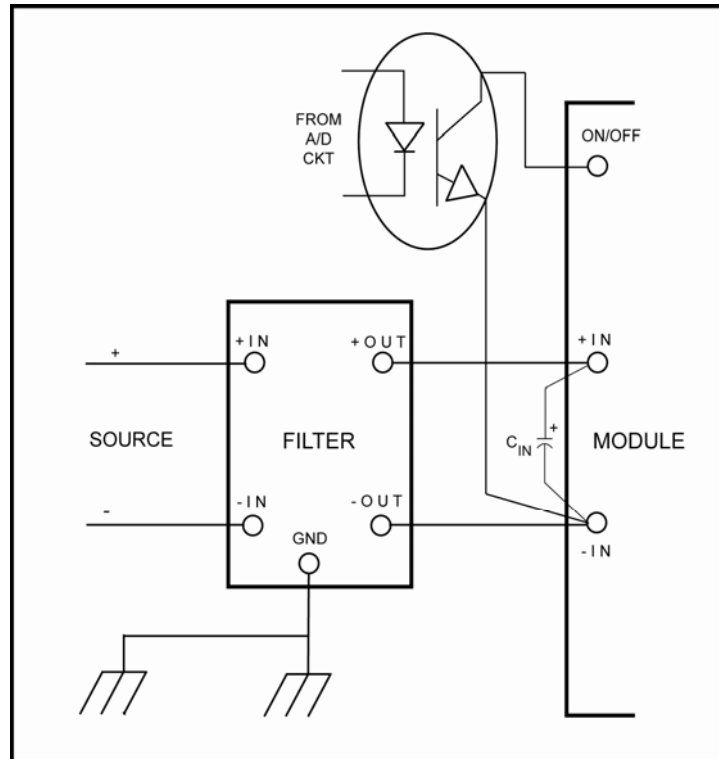

Figure 2. Use of the Shutdown Pin With Input Filters
**Fig. 2: F4810 - Differential mode attenuation, 0.2-100 MHz. Source and load resistances are 50 Ω. Vertical scale: 10 dB/div, with zero level marked by arrow. No load, 25 °C.**
Differential attenuation plots for the F4810 and F2410 filters in the extended frequency range of 20 kHz-100 MHz are shown in Fig. 2 and Fig. 3, respectively, and can be seen to be flat (around 55-60 dB) from 0.35 MHz to 40 MHz.